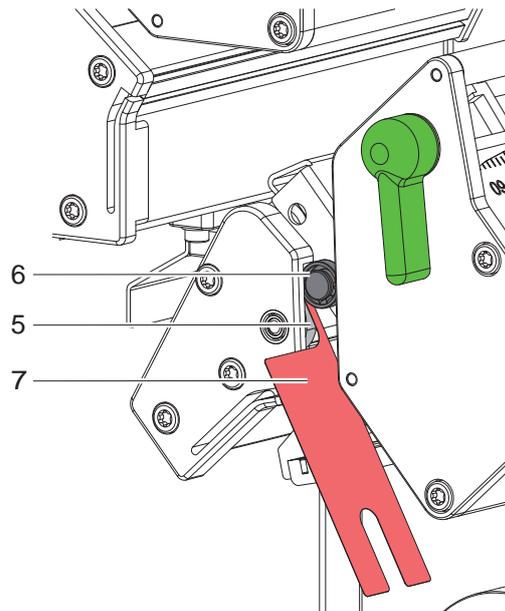

Fig. 31 Checking distance eccentric - ball bearing
9. Check the distance between ball bearing (6) and eccentric (5) with the caliber 0.1 mm (7) ▷ Fig. 31.